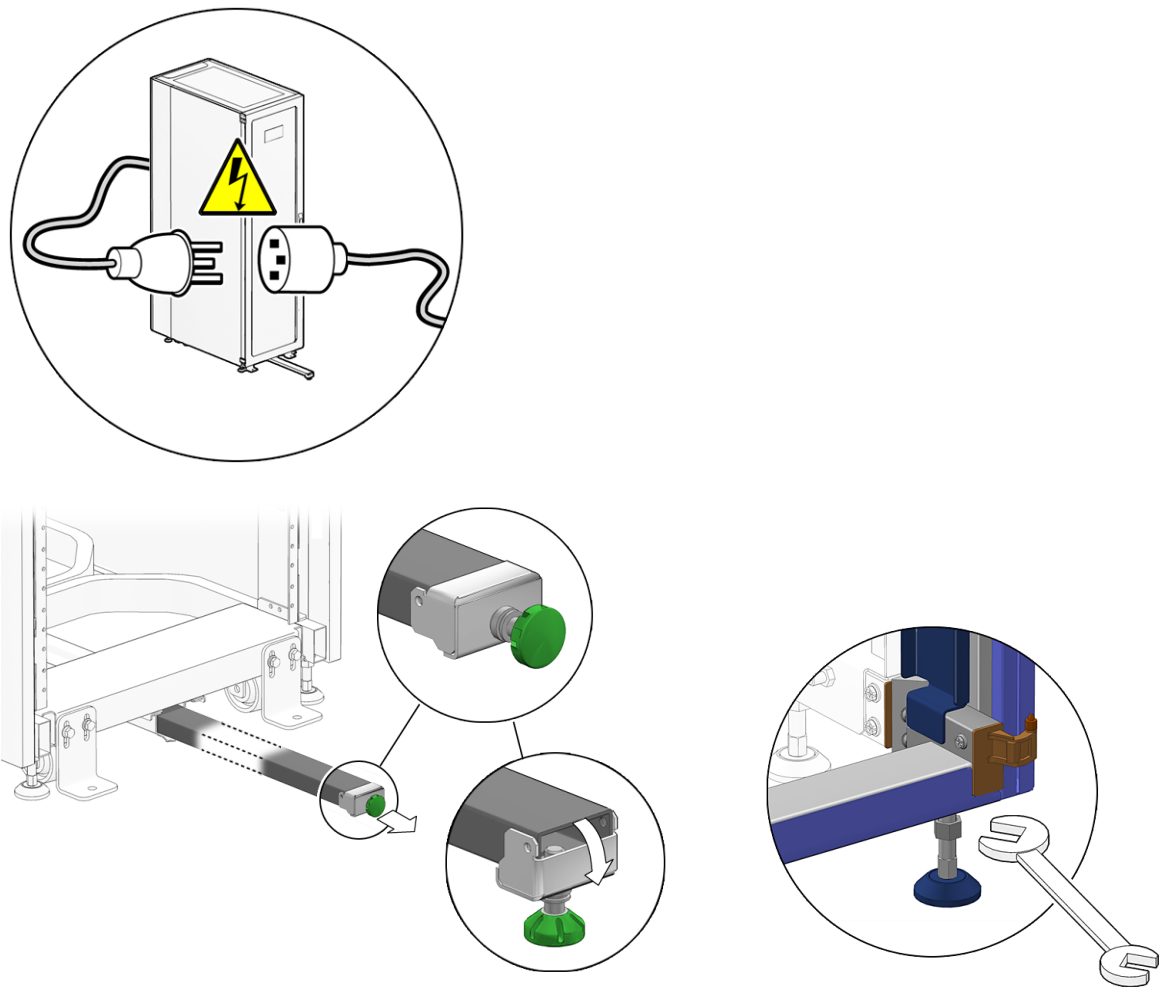

FIGURE 4-1 Deploying the Antitilt Bar and Lowering the Sun Rack Feet
- 2. Pull out the end of the antitilt bar to the fully extended position (FIGURE 4-1).**